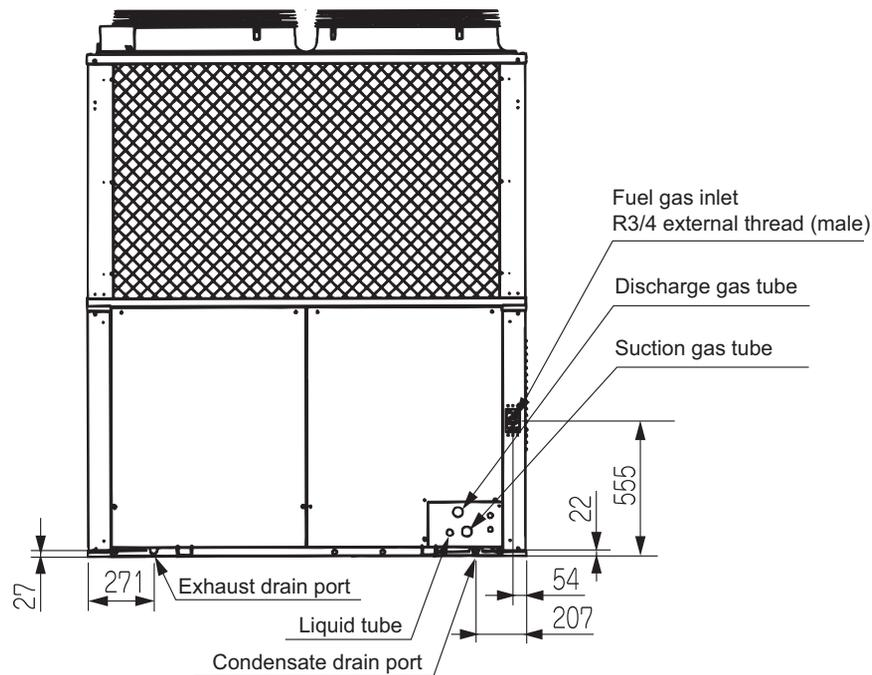

Fig. 8
- As condensed water drips from the unit, be sure to install it in a location with good drainage. (Tubing for the condensate drain port (Fig. 8) is not necessary, but follow the above precautions if tubing is installed.)